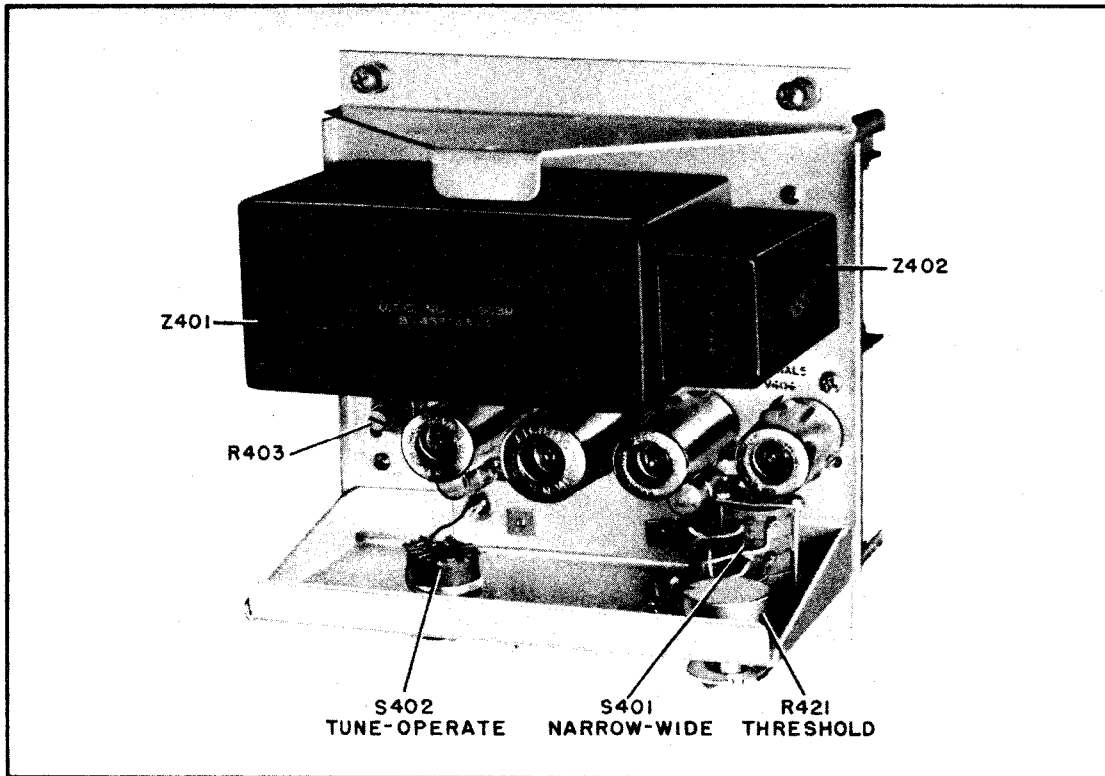

Figure 7-9. Audio Input Unit Chassis, Top View
*e.* AUDIO INPUT UNIT.—See Figures 7-9 and 7-10. Check the tubes, then circuit-check the unit for shorts, open circuits, or off-value parts (see Figures 7-29, 7-30 and Table 7-3). If the trouble is not located, use the following signal tracing procedure:
(1) Apply a 1000-cycle audio signal of about 0.1 volt to the narrow input, pins 9 and 11 of P401. Set the NARROW-WIDE switch to NARROW. Connect an external test oscilloscope to the diversity control line, pin 6 of P401. If no signal is observed, the trouble is in the circuits of Z401 or the back wafer of S401. If a signal is observed on the test oscilloscope, proceed as in step (2).
(2) Check the test oscilloscope lead to pin 2 of V402. Adjust R403 clockwise as far as it will go. Absence of a signal indicate trouble in the circuits of V401. If a signal of greater amplitude than in step (1) is obtained, proceed with step (3).
(3) Change the test oscilloscope lead to pin 1 of V403. The signal should have flat top and bottom peaks due to limiter action. If no signal is obtained,